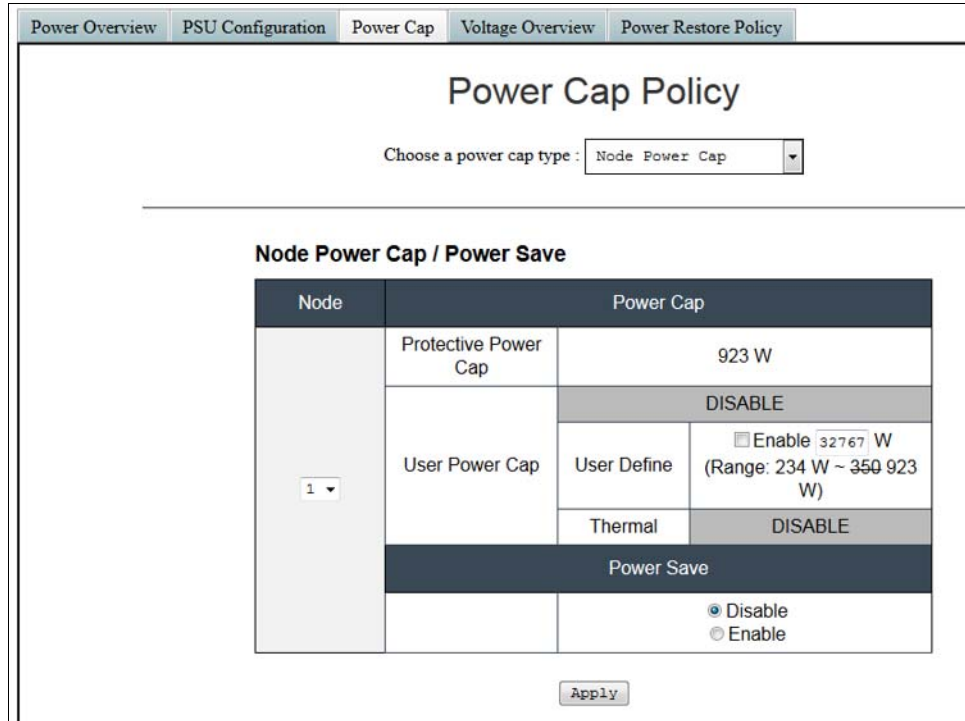

Figure 12 SMM GUI for power capping
- ▶ *SMM*: Figure 12 shows the power capping GUI interface using the System Management Module of the ThinkSystem D2 Enclosure.